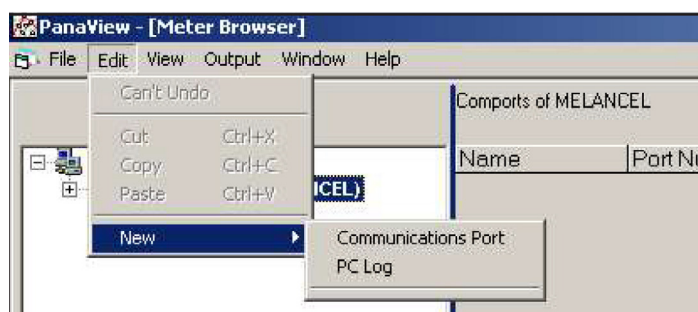

Figure 77: Edit menu
3. Click on the "New" menu option to open a submenu opens with two choices (see *Figure 77* below).